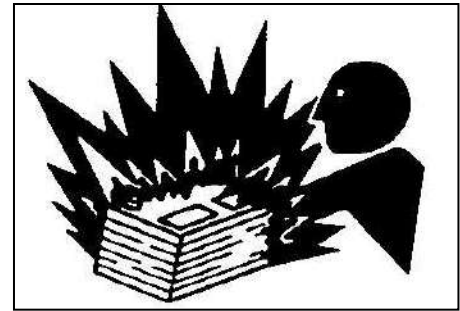

Figure 1.20
- 1) Prohibit fire or flame close to the battery top, otherwise the battery gas will explode (As figure 1.20).